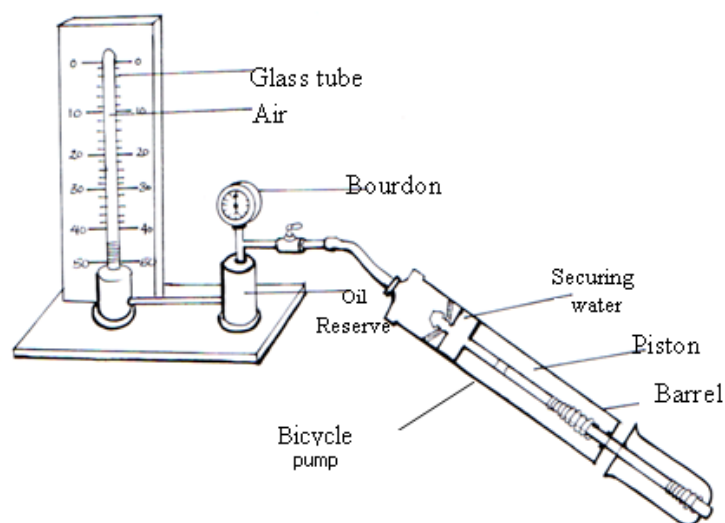

Figure 4.30: Boyle's Law practical setup
2. Connect the bicycle pump and gently increase the pressure P of the air in the tube and record the corresponding volume V . See Figure 4.30.